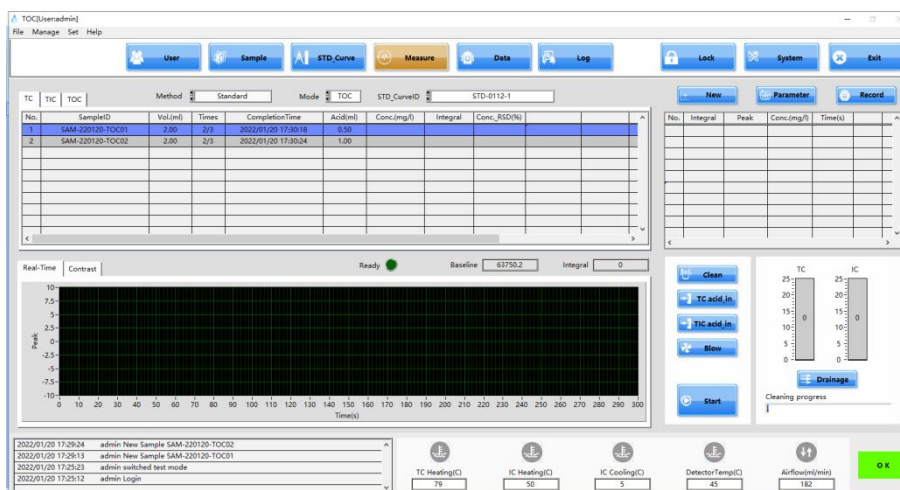

Fig 4.62
Step 5 The new standard sample information will be shown in the test progress list (Fig. 4.62). User can complete the whole group of standard samples establishing.